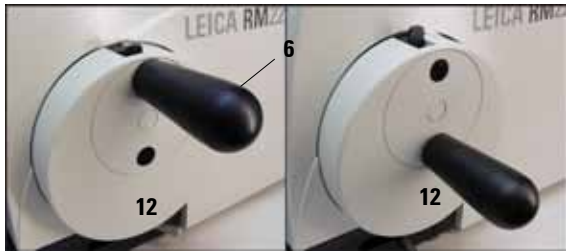

Fig. 4
- To center the handwheel, lightly pull the handle (6) outwards and swivel it into the center of the handwheel (12) (Fig. 4).